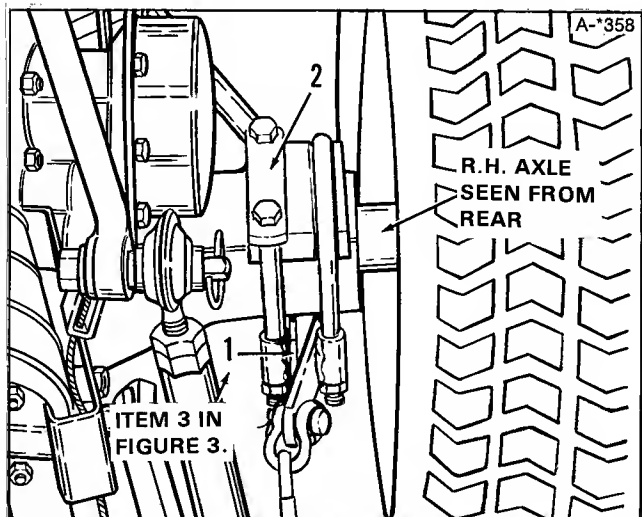
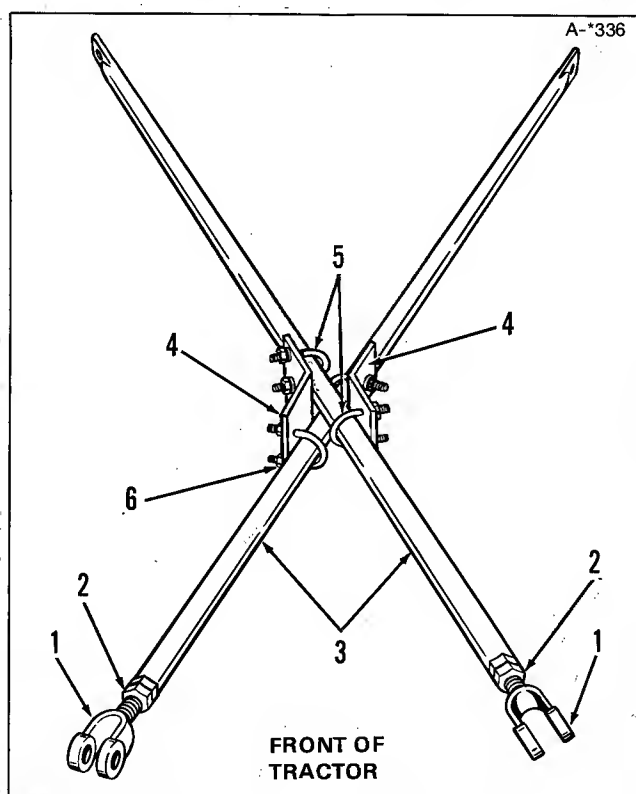

**Figure 4. (Shown with Rollover Cab)**
**Figure 5. (Shown without Rollover Cab)**
3. Install the brackets (3, figure 3) to each side of rear axle with parts shown; leave loose at this time. If a rollover cab is installed, do not use the bars (2) and install as in figure 4. If rollover cab is not installed, install parts as shown in figure 5.